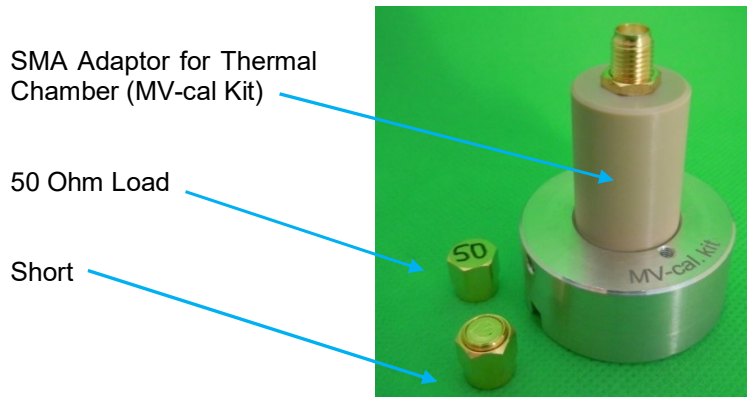

Figure 102: VNA Calibration Kit
The calibration kit contains the following components: SMA adaptor for thermal chamber, SMA Short fitting, SMA 50 Ohm Load fitting, shown in Figure 102.
3. The text box “Please apply open for Reflection Bridge Port 1” will appear. If the Channel being calibrated is a thermal chamber, put the SMA Adaptor (MV-cal Kit) into the chamber and fix into position – make sure nothing is attached to it as in Figure 102. If the channel being calibrated is just an SMA bulk-head connector on the instrument make sure nothing is connected to it. If the channel to be calibrated will be used with an extension cable, attach the cable, but leave the SMA connector at the end open/ unconnected to the sensor holder. Then press OK.